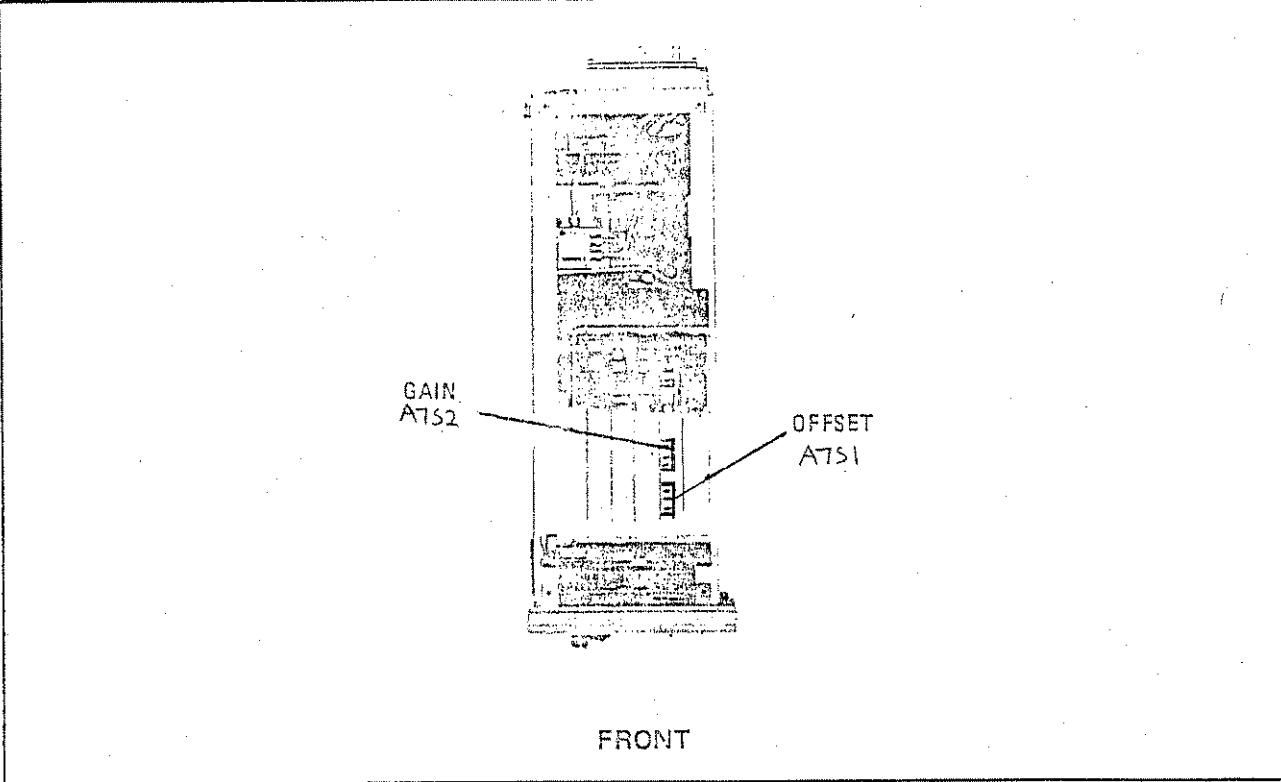
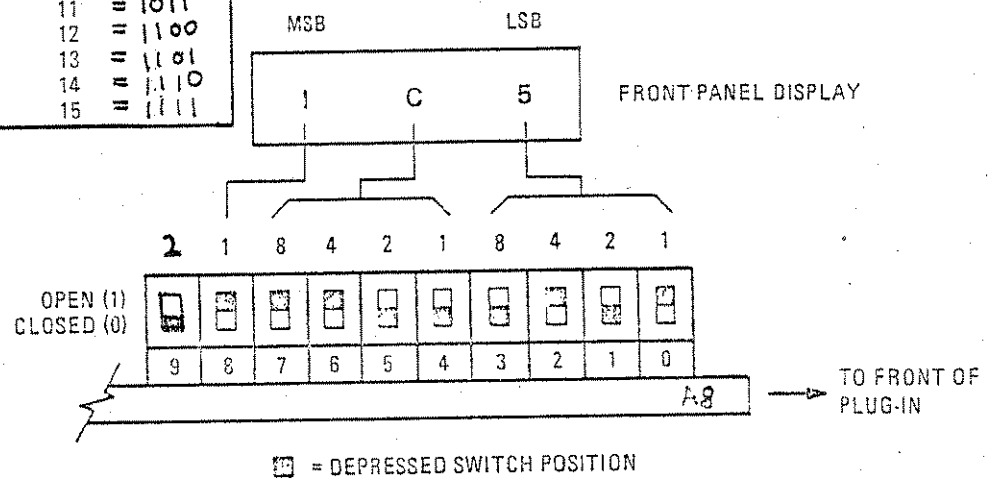

Figure 5-20 YTM to YO Tracking Calibration Switch Location
Figure 5-21 YTM to YO Tracking Calibration Switch
7. Enter the number displayed on the 83592A POWER display into A7S1 as shown in Figure 5-21. Refer to Figure 5-20 for the switch location.
9. Enter the number displayed on the 83592A POWER display into A7S2 as shown in Figure 5-21. Refer to Figure 5-20 for the switch location.